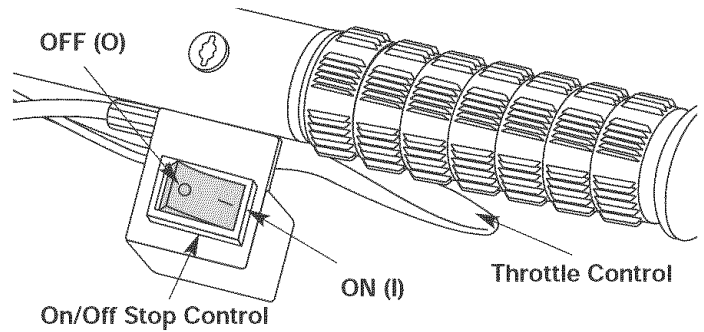

Fig. 6
2. Make sure the On/Off Stop Control is in the **ON (I)** position (Fig. 6).